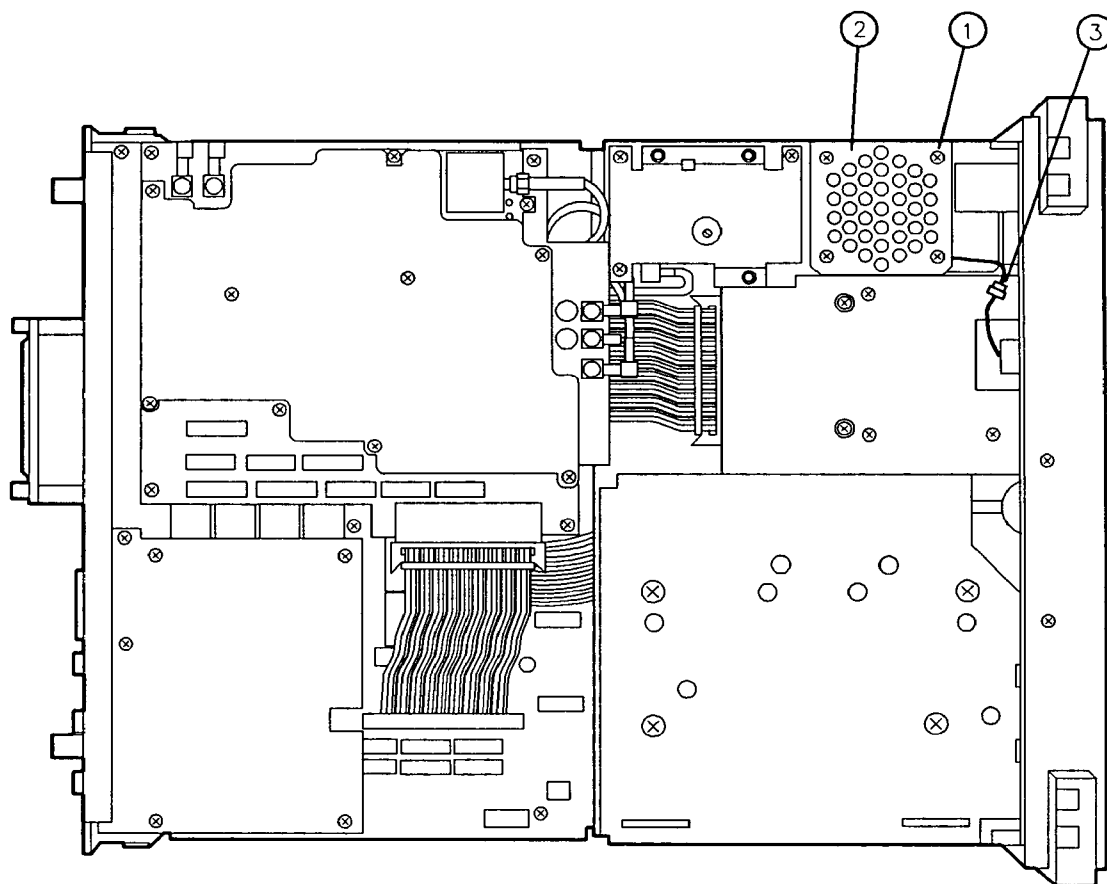

Figure 3-19. Speaker Guard
14. On option instruments, remove the four screws (1) securing the speaker guard (2), and remove the speaker guard. See Figure 3-19.